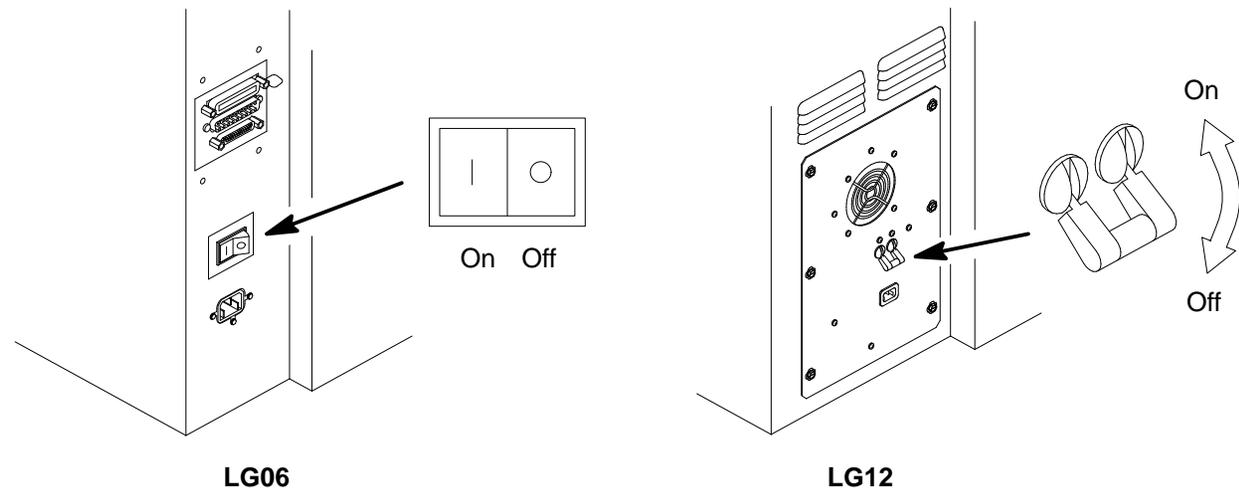

Figure 3. Power Switch
1. The printer power switch is located at the rear of the printer, in the lower left corner. To turn the printer on, set the power switch to the **On** position. (See Figure 3.)